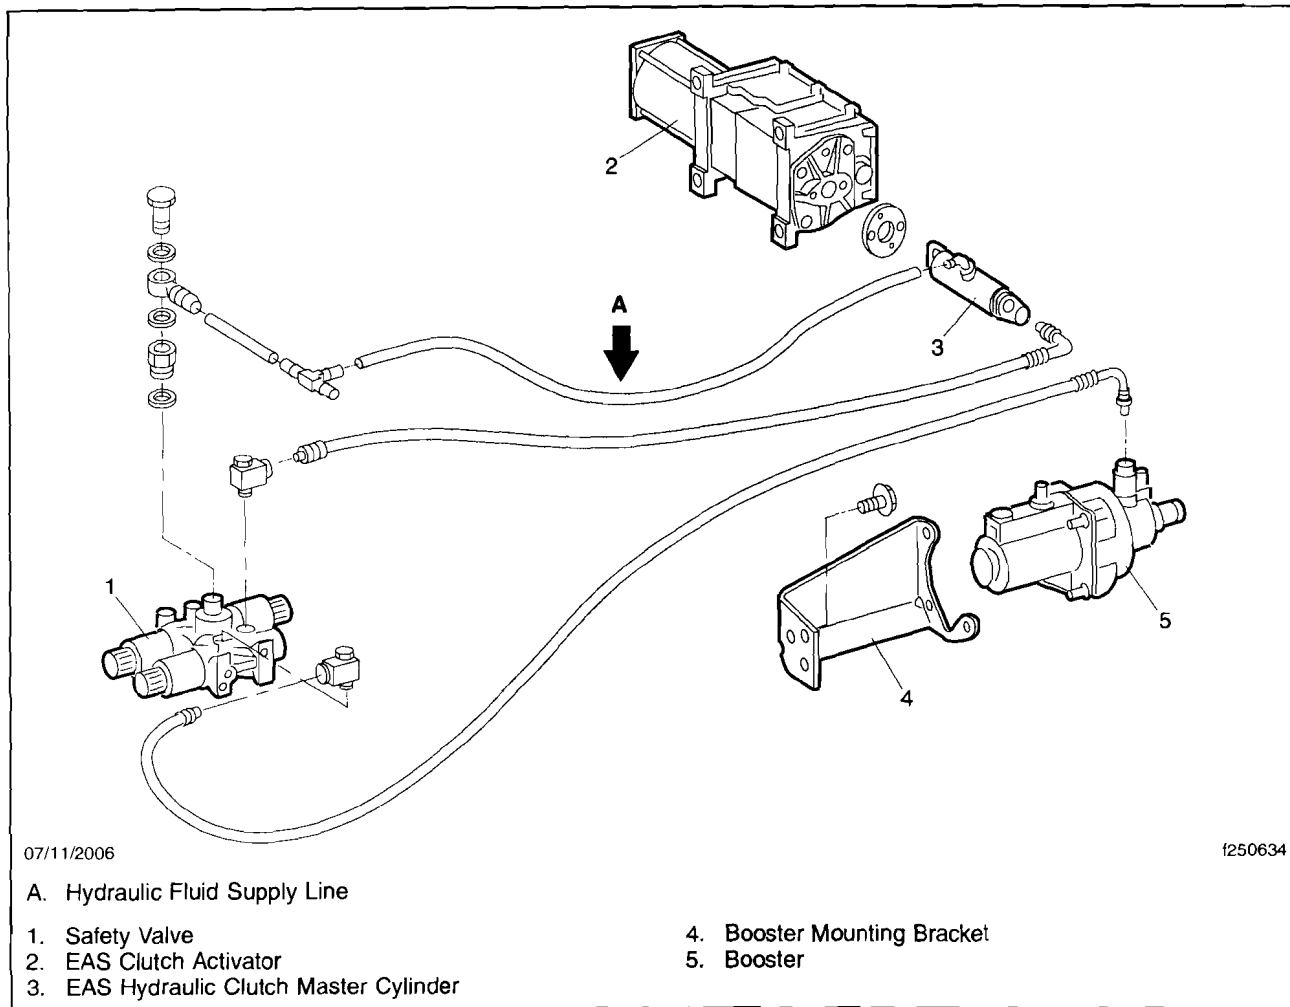

Fig. 1, Clutch Hydraulic Lines
5. Check for pinched hydraulic clutch lines. If a line is pinched, it must be replaced with the line in the recall kit. Be especially attentive to the hydraulic fluidline, from the fluid reservoir to the master cylinder, indicated by arrow A in Fig. 1.